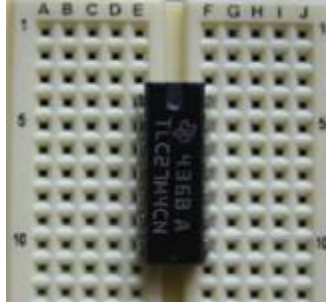

Figure 4. Positioning a DIP packaged IC on the protoboard.
prototyping a circuit that uses a component integrated circuit (IC) in DIP (double in-line pins) packaging. In such circuits, the IC is mounted such that it straddles the trough (see Figure 4). The pins on the right side of the IC connect to a set of adjacent holes in the “F” column; similarly, the left hand side IC pins connect to a set of adjacent holes in the “E” column.